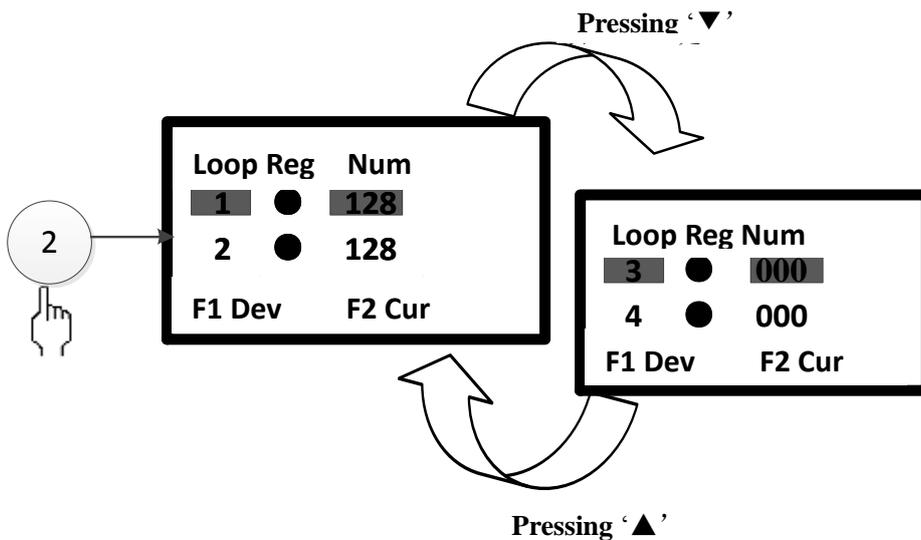

Fig. 3-13
② Loop Info
Enter the screen as shown in Fig. 3-13 by pressing number 2 or moving cursor to select ②. Quantities for all connected devices of a certain zone can be browsed.